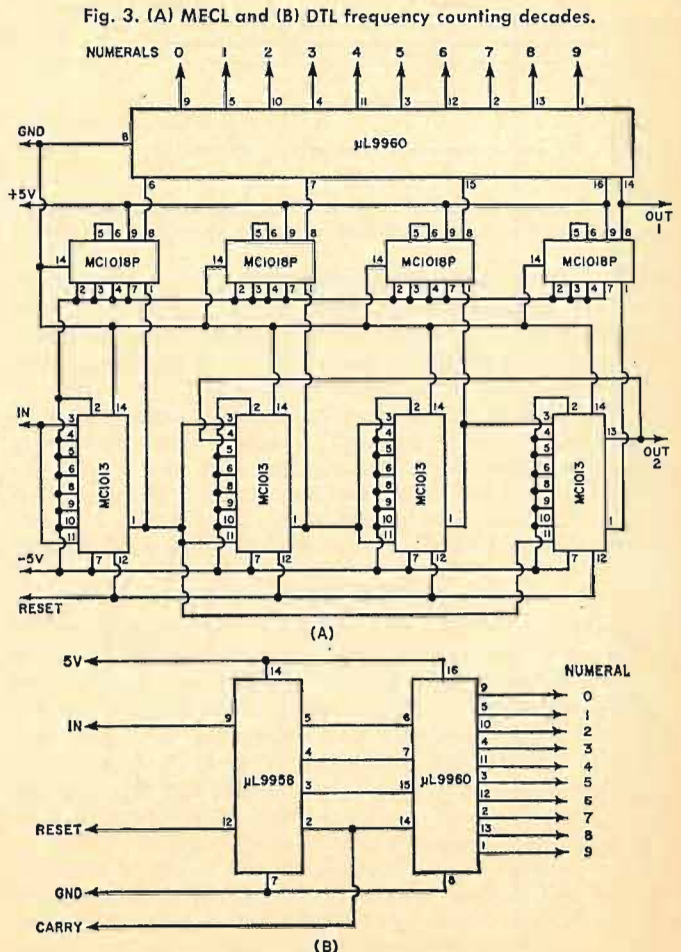
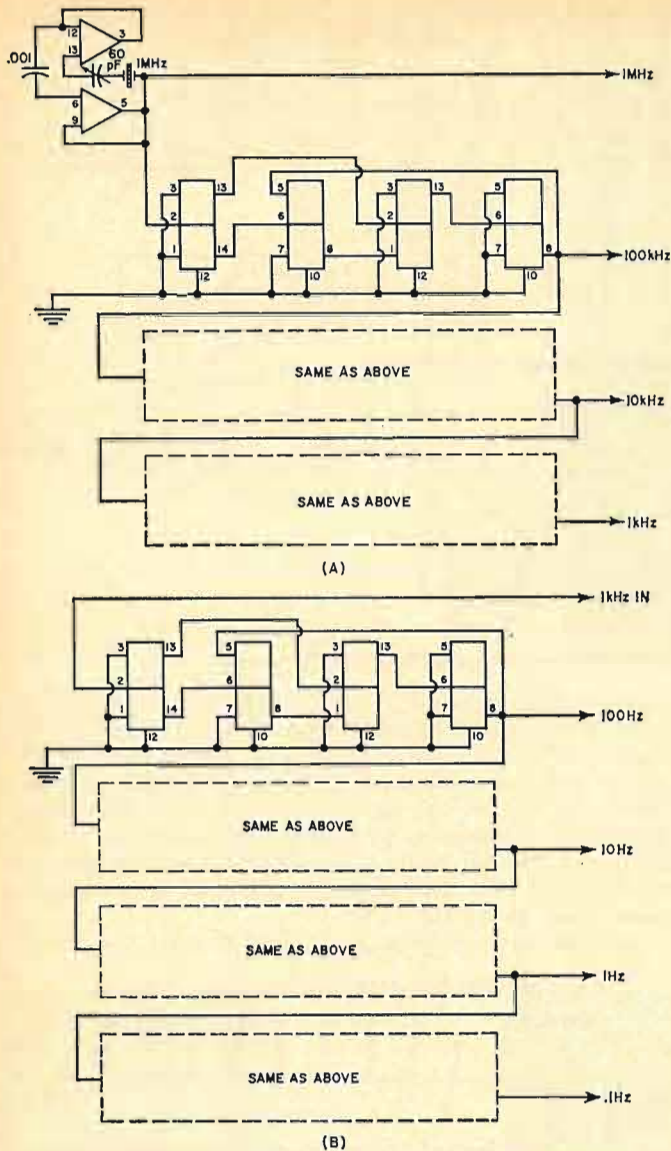

Fig. 3. (A) MECL and (B) DTL frequency counting decades.
Fig. 4. Count periods of 1 μ s to 10 seconds are provided by the time-base oscillator (A) and countdown decades (A and B).
The complete logic diagram of a 50-megahertz counter is shown in Fig. 2. Functionally, the counter is divided into five major sections: the frequency-counting decades (Fig. 3); the time base oscillator and countdown decades (Fig. 4); the signal conditioning, main gate, and control circuits (Fig. 5); and power supplies (Fig. 6).
The first two decades in the counting chain (Fig. 3) are *Motorola* emitter coupled logic MC1013 P, which have a maximum counting frequency of 85 MHz. MECL II logic is non-saturated logic and permits tremendous toggling speeds. (Selected units in *Motorola* laboratories have toggled at 270 MHz.) However, MECL logic levels are approximately -1.5 V for “Q” and -0.7 V for “ \bar{Q} ” (1), and this is not compatible with diode transistor logic (DTL) levels which are 0 V for “Q” and $+1.5$ V for “ \bar{Q} ”. Therefore, level translators are required wherever MECL and DTL logic interface.